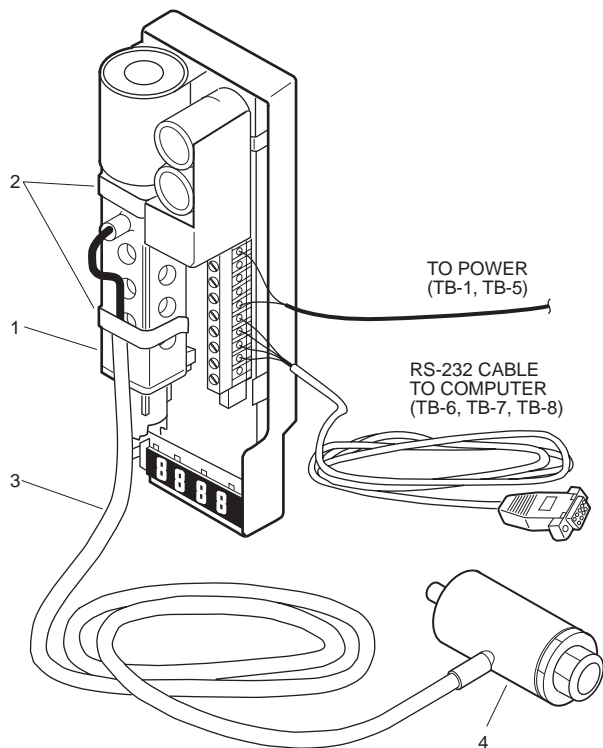

Fig. 4 — Connecting Calibration Components
2. Cover the sensor body using the calibration adapter blanket (CAB) (Fig. 4, Item 1). Press firmly to ensure that the sample chamber is sealed. Use the metal clips (Fig. 4, Item 2) to secure the CAB snugly to the sample chamber body. Attach tubing (Fig.4, Item 3) to the regulator outlet (Fig. 4, Item 4) and connect to CAB. See Fig. 4.
3. Disconnect wires from RS-232 terminals on sensor circuit board. See Fig. 4.